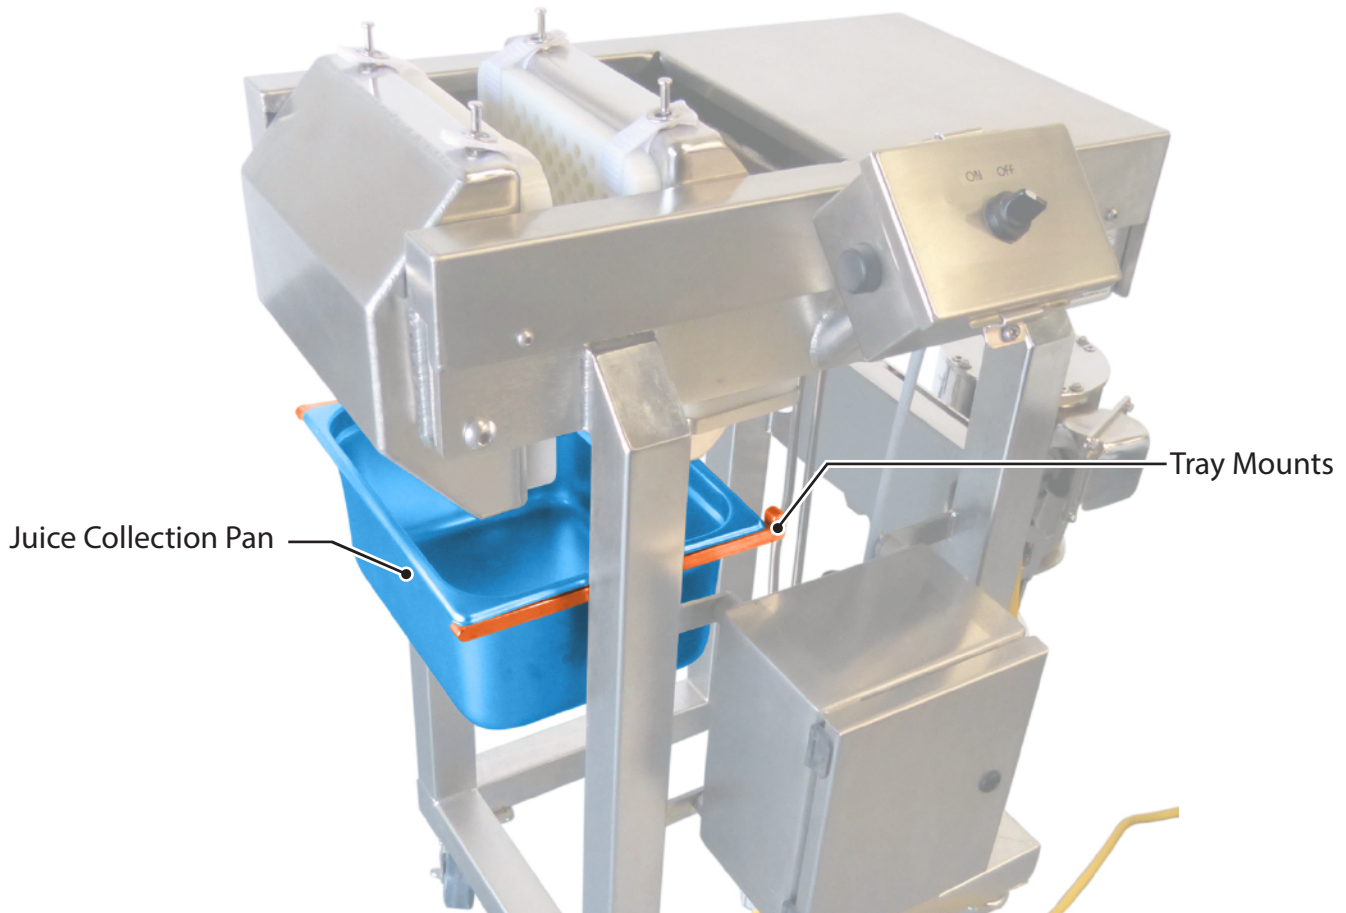

Figure 4 : *Installation of the Juice Collection Tray.*
1. Locate the Tray Mounts under the press area. Slide a Juice Collection Pan into position on these mounts. Make sure the pan is against the tray stops at the rear of the Mounts and is aligned to collect juice (**Figure 4**).